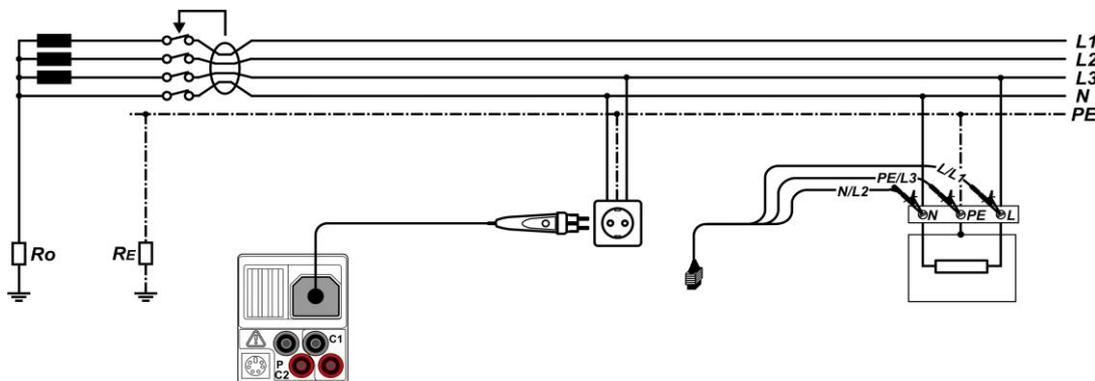

Figure 5.17: Connecting the plug commander and the 3-wire test lead
- ❑ **Connect** test leads to the item to be tested (see figure 5.17).
- ❑ **Connect** test leads to the item to be tested (see *figure 5.17*).
<ul style="list-style-type: none"> <li><input type="checkbox"/> Select the RCD function using the function selector keys.</li> <li><input type="checkbox"/> Set sub-function AUTO.</li> <li><input type="checkbox"/> Set test parameters (if necessary).</li> <li><input type="checkbox"/> Connect test cable to the instrument.</li> <li><input type="checkbox"/> Connect test leads to the item to be tested (see figure 5.17).</li> <li><input type="checkbox"/> Press the TEST key to perform the test.</li> </ul>	Start of test